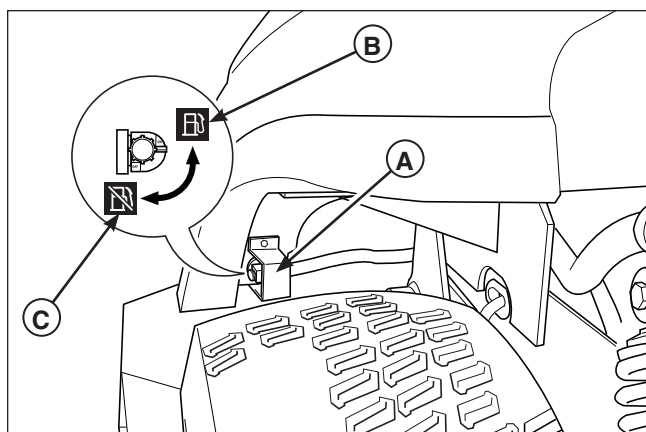

Figure 2. Fuel Shut Off Valve
1. Make sure that there is fuel in the fuel tanks and that both fuel tank shut off valves (A, Figure 2) are open.